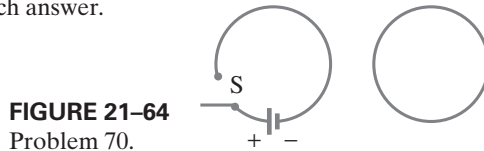

FIGURE 21–64
70. Suppose you are looking at two wire loops in the plane of the page as shown in Fig. 21–64. When switch S is closed in the left-hand coil, (a) what is the direction of the induced current in the other loop? (b) What is the situation after a “long” time? (c) What is the direction of the induced current in the right-hand loop if that loop is quickly pulled horizontally to the right? (d) Suppose the right-hand loop also has a switch like the left-hand loop. The switch in the left-hand loop has been closed a long time when the switch in the right-hand loop is closed. What happens in this case? Explain each answer.